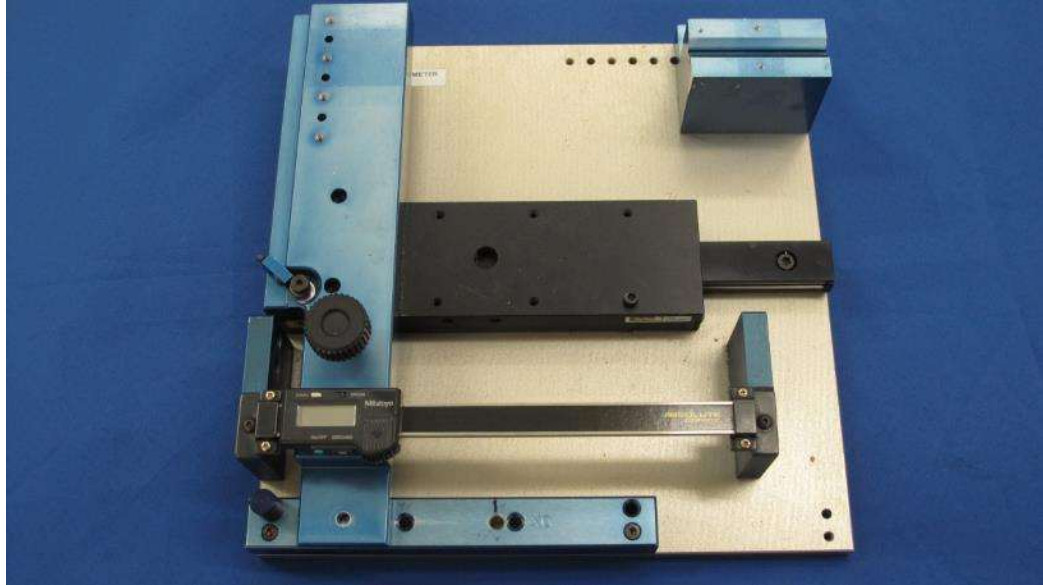

Figure 14-7. Linear Displacement Calibration Fixture
- 14.2.2.1 Remove the IR-TRACC from the double-gimbaled assembly and install it into a linear displacement calibration fixture DL472-6000 as shown in Figure 14-7 .